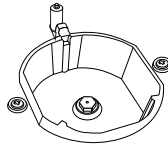
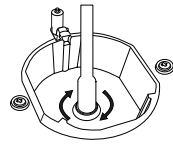

Figure 4
Figure 5
- Please remove nozzle (Figure 4) from burner with special nozzle driver and install new nozzle. (Figure 5)